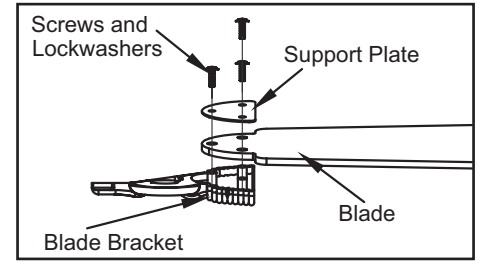

Figure 7
1. Attach blade to blade bracket, using the blade bracket support plate, screws and lockwashers provided (Figure 7). Start a screw into the blade bracket. Repeat for the remaining two screws.